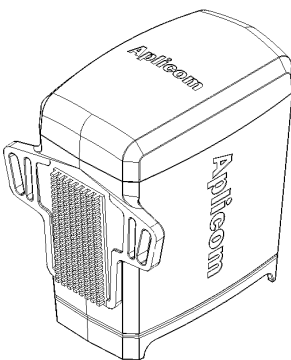

Figure 3.
3. With the Reclosable dual lock fastener. Attach another half of the fastener to the bottom of A1 device. Figure 3.